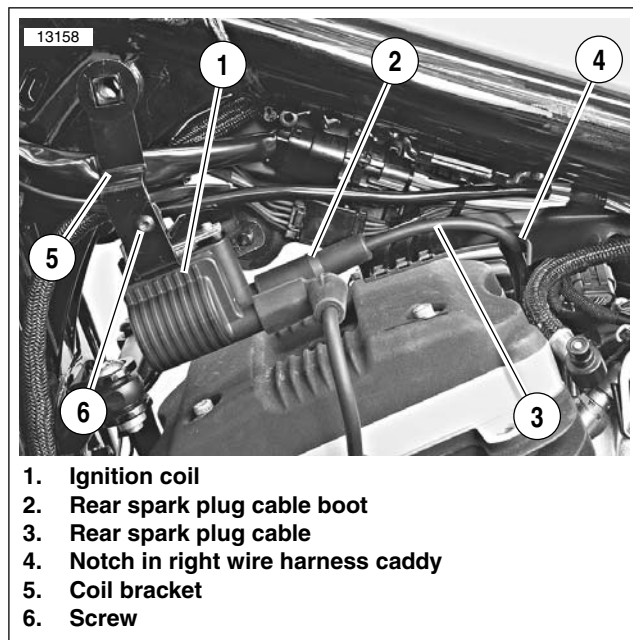

Figure 7-121. Rear Spark Plug Cable Routing
9. See Figure 7-121. Raise coil bracket (5) up into position and mount it on boss on left side of frame. Secure coil bracket to ignition switch bracket with screw (6). Tighten to 35-45 **in-lbs** (4.0-5.1 Nm).